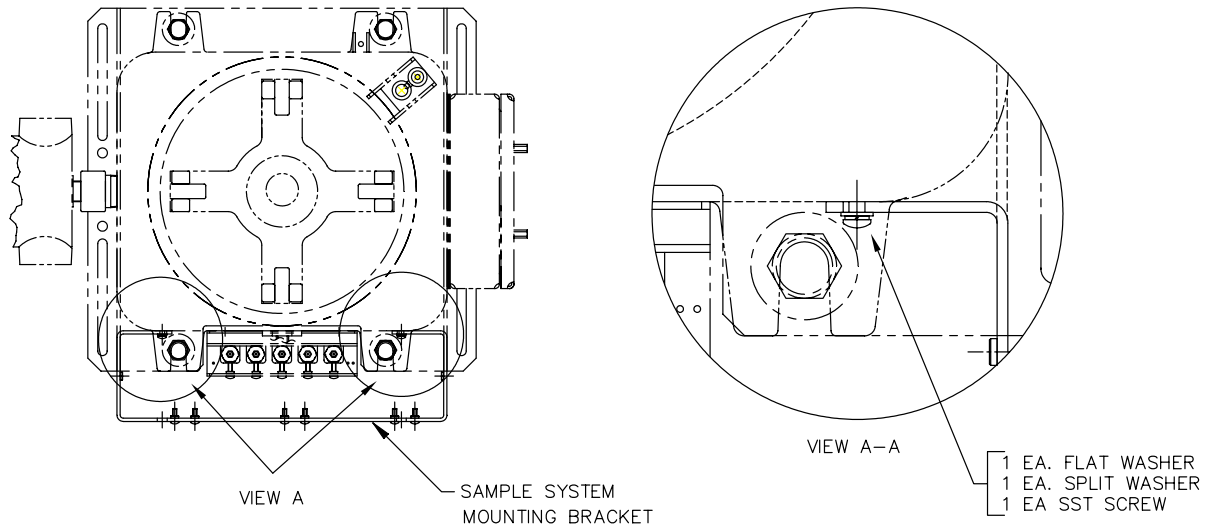

Figure 25 Sample Conditioning Module Mounting Bracket Installation
- 2) Place split washer, then flat washer on one of the ½” screws and insert through the mounting holes located in the bracket into one of the associated holes in the Transmitter’s enclosure (see Figure 25).